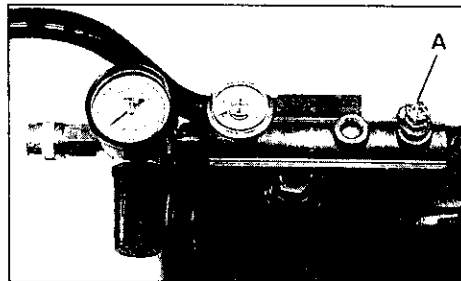

Fig. 7
3. When tank is empty, remove safety valve (A) from manifold. Refer to Figure 7.